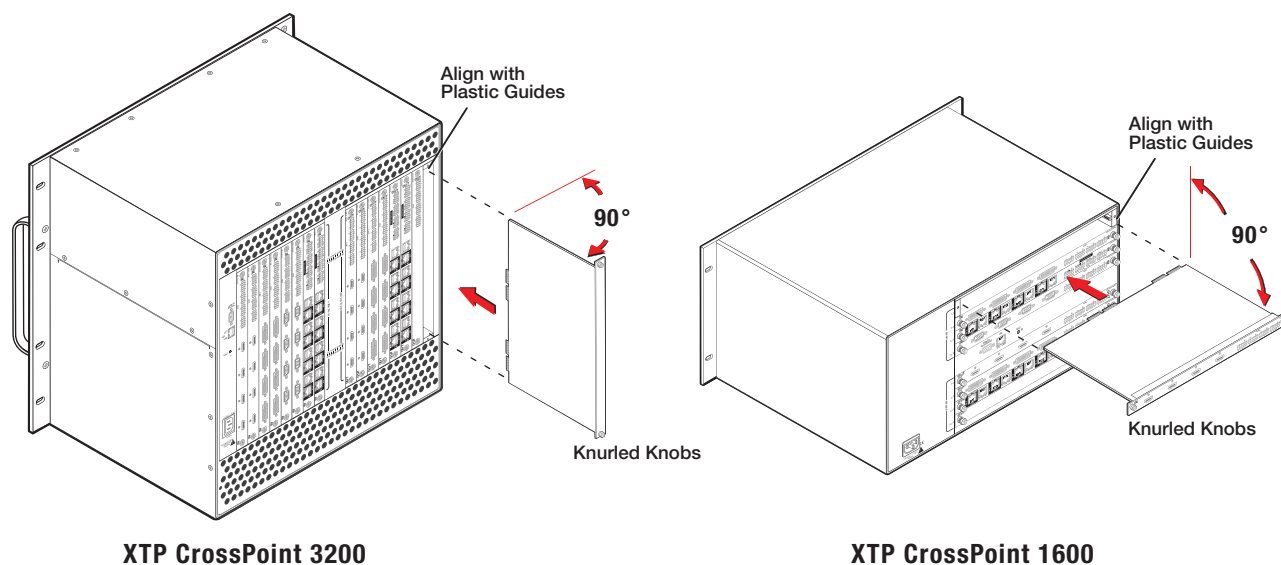

Figure 74. Input or Output Board Replacement
2. Rotate the top and bottom (XTP CrossPoint 3200) or left and right (XTP CrossPoint 1600) knurled knobs (see figure 74 on the next page) to completely loosen the screws.
2. **For an input or output board**, align the board with the top and bottom (XTP CrossPoint 3200) or left and right (XTP CrossPoint 1600) chassis guides (see figure 74).